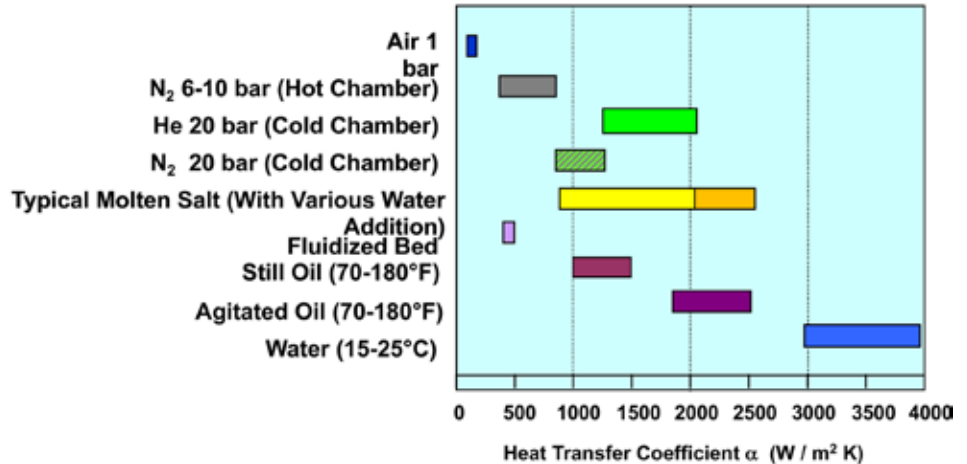

Figure 5: Heat transfer rates of common quench media.
- c. Figure 5 shows approximate heat transfer rates for common quench media options.